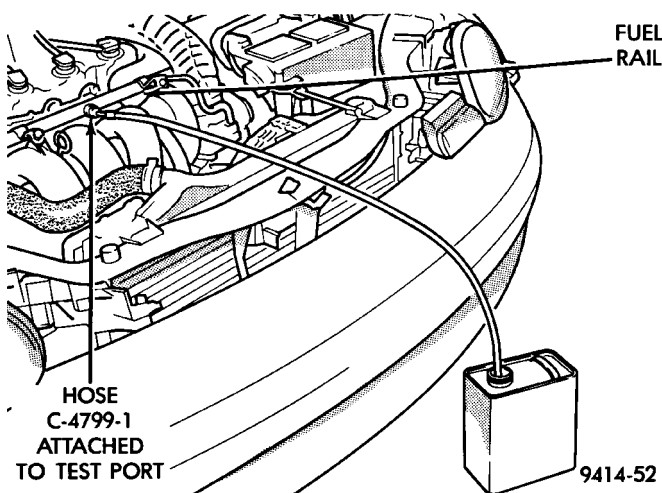

Fig. 20 Releasing Fuel Pressure—Typical
(5) Place the open end of fuel pressure release hose, tool number C- 4799-1, into an approved gasoline container. Connect the other end of hose to the fuel pressure test port (Fig. 20). Fuel pressure will bleed off through the hose into the gasoline container. Fuel gauge C-4799-A contains hose C-4799-1.